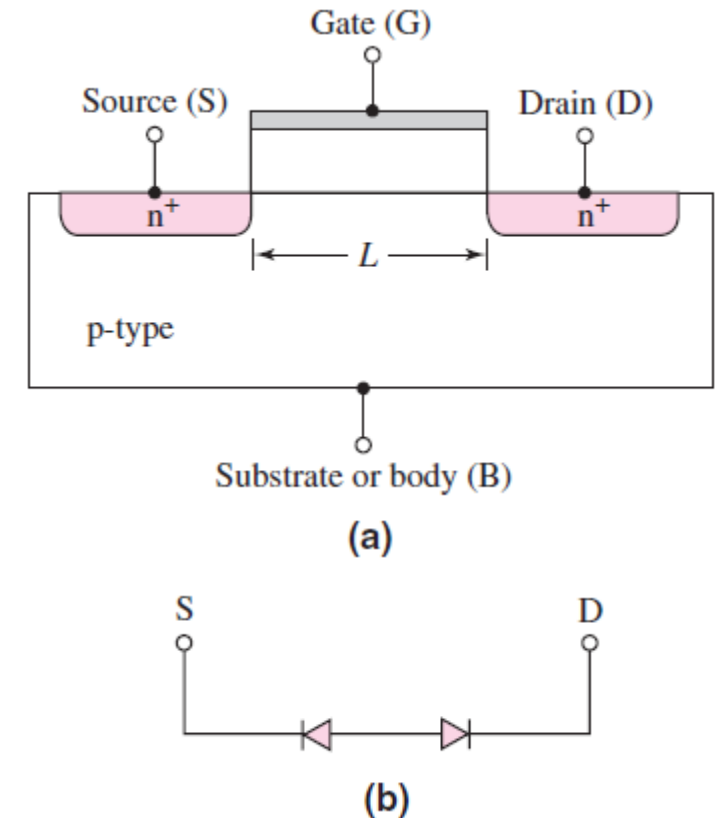

Figure 3.6
- The Source and Drain terminals are separated by the p-region, as shown in Figure 3.6(a).
- This is equivalent to **two back-to-back diodes**, as shown in Figure 3.6(b).